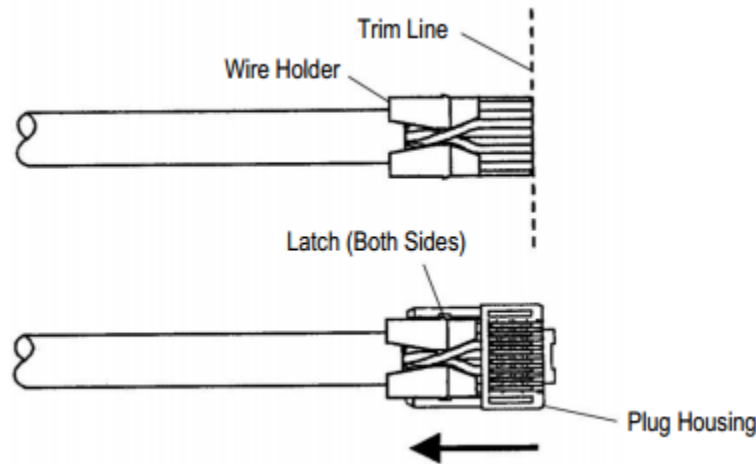

Figure 7. Trim Conductor Pairs
5. While holding all conductors down against the wire holder in a flat layer, trim all conductors evenly and square with appropriate tooling, just beyond the front edge of the wire holder (approximately 0.010" past the edge of the wire holder) as shown in Figure 7.